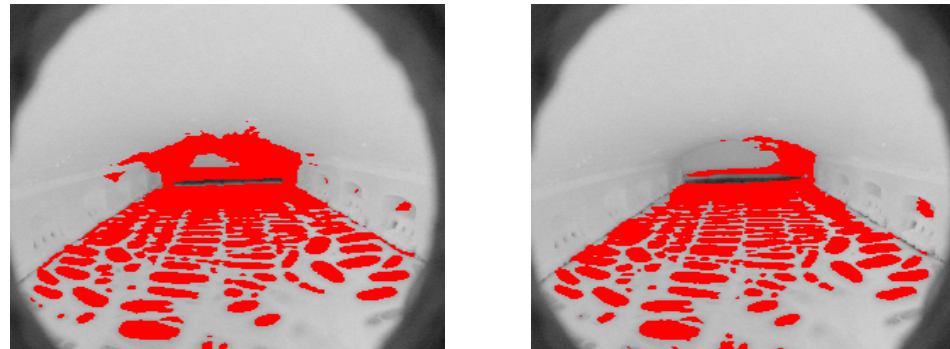

Figure 3. Result after 25 training epochs (left) and 100 epochs (right)
- Figure 3: Initial detection results